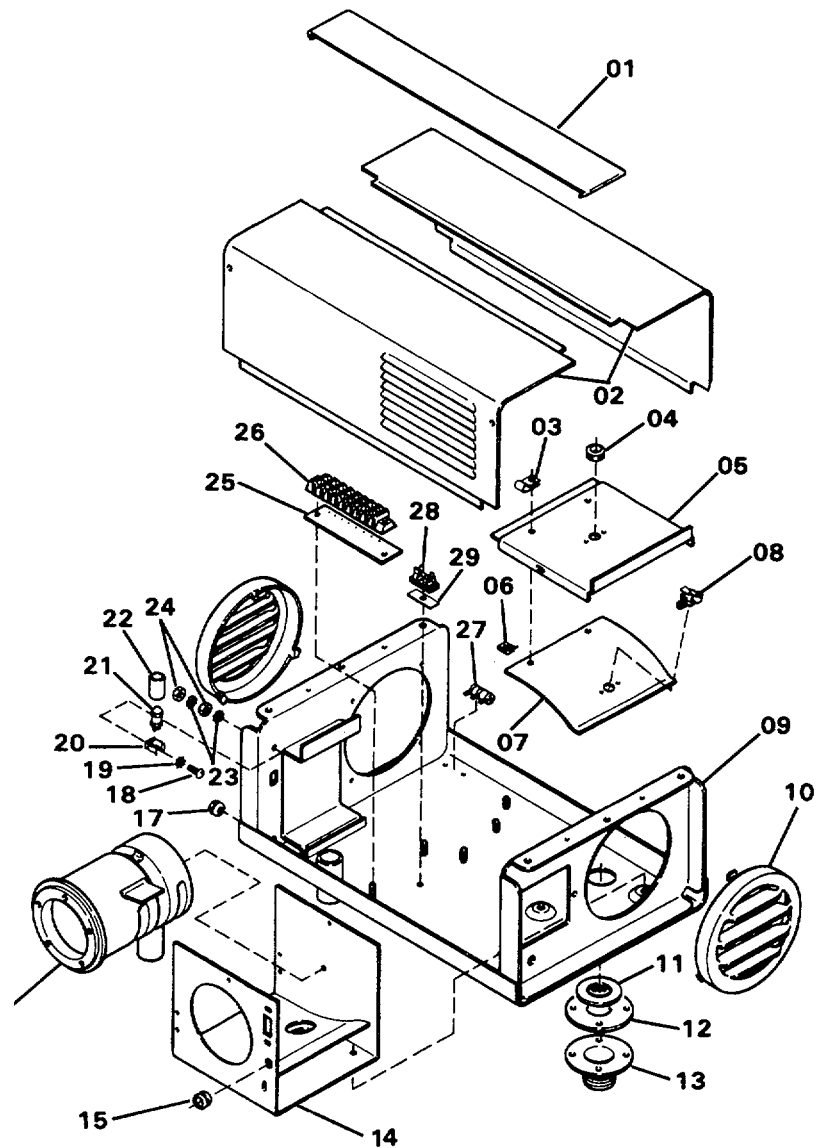

Figure 13D-1. Case and Heat Exchanger
2. Loosen the clamps and pull out ignition coil (01, Figure 13D-3).
To disassemble the ignition pack, proceed as follows (see Figure 13D-3):